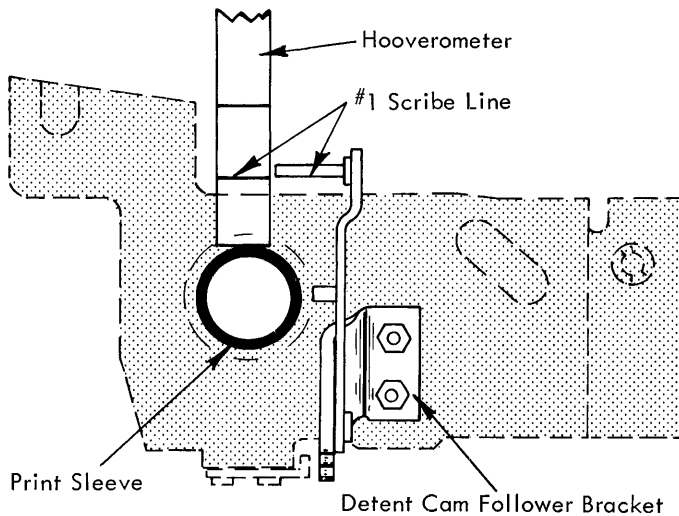

FIGURE 100B. Detent Cam Follower Bracket
- b. Vertically so that the bottom surface of the pin on the cam follower lines up with the scribe line #1 on the Hooverometer when the Hooverometer is placed against the print sleeve as shown in Figure 100b.